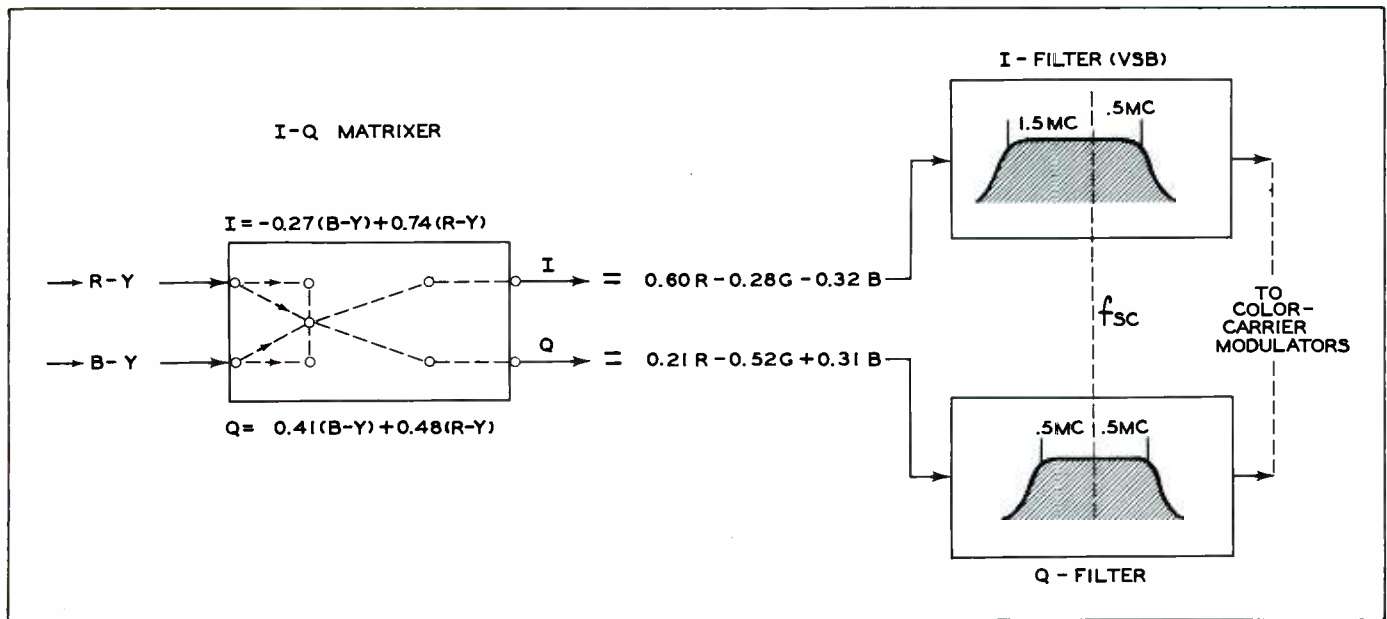

Fig. 6. I and Q Transmission Channels
Fig. 6 shows the action of the I-Q matrixer. The I channel combines
The I and Q channels are fed to separate filters before modulation of the color subcarrier. (Fig. 6.) The I channel is broad-banded but has vestigial-sideband characteristics. The bandwidth below the subcarrier frequency (f_{sc}) is single sideband for frequencies higher than 500 kc. Frequencies up to 500 kc are double-sideband on both the I and Q channels as shown. Such operation allows two types of receiver action: (1) the receiver may utilize the extra color information in the wideband I channel, or (2) cheaper receivers may ignore this extra information and reproduce only chrominance detail supplied up to 500 kc.